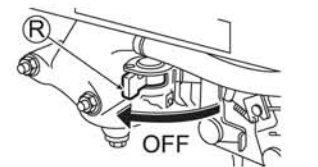

Fig. 16
3. Set Fuel cock (R) to "OFF". (See Fig. 16)